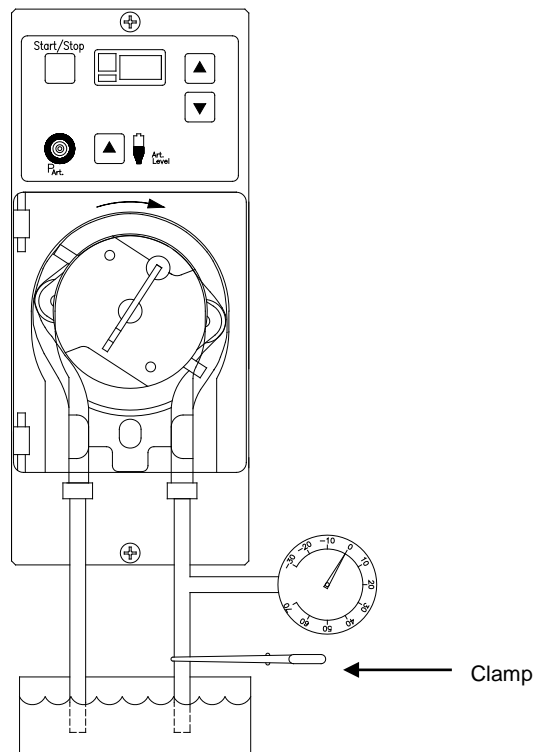

Figure 8 - Blood Pump Rotor Occlusion Test
- Connect a pressure gauge to the bloodline in the pump (See Figure 8) and allow the rotor to pull up $37^{\circ}\text{C} \pm 1.5^{\circ}\text{C}$ water. Let this fluid flow past the pressure gauge long enough to clear out air.
- With the pump running at 600ml/min, clamp the outlet so that the pressure gauge is between the output of the pump and the clamp (See Figure 8). The peak pressure on the gauge must be between 25 and 35psi. If the peak pressure is out of range, replace the blood pump rotor springs (part number 650174).